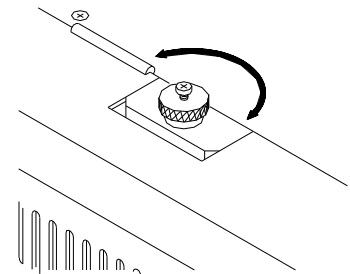

Fig. 8
In case the pressure roller is not needed, it can be disabled. By turning the ring (fig. 8 pos 1) clockwise the pressure roller is lifted upwards.